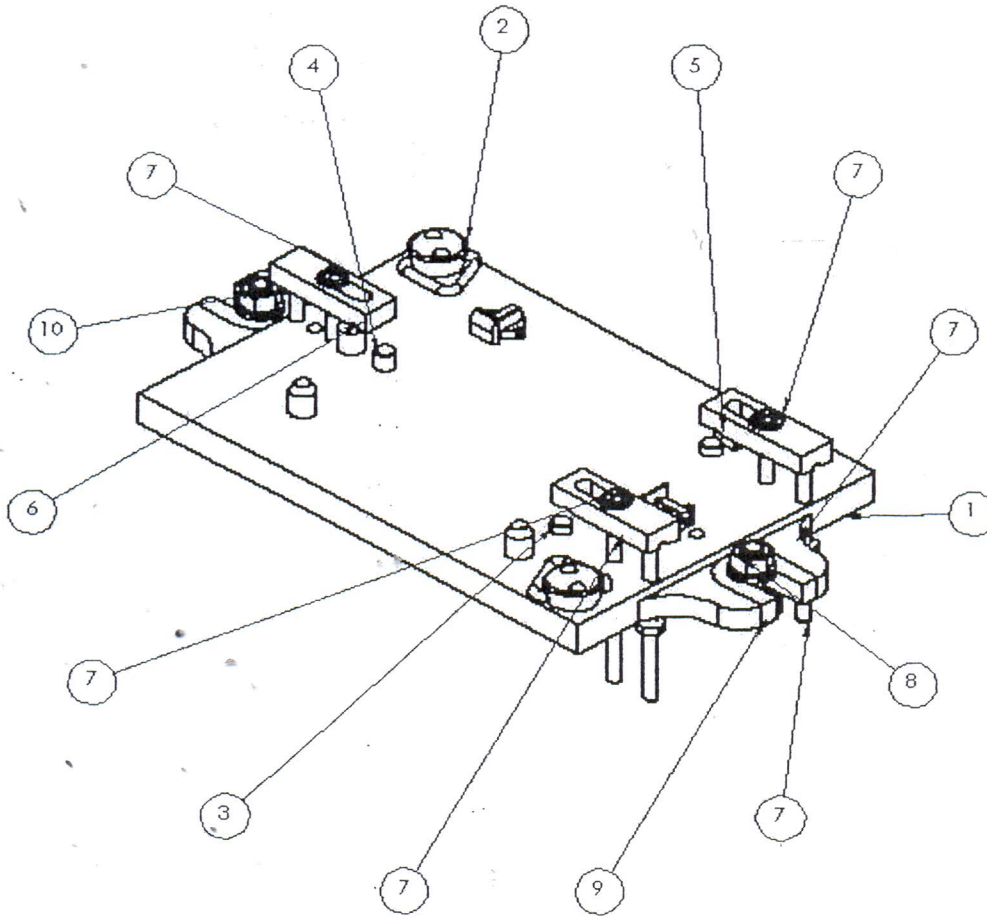

Figure 4: Plate Fixture
Refer to the Figure 4 to answer question 6 (a), (b), (c), and (d).
- (a) According to the plate fixture illustrated in Figure 4, explain why the components no.3 and no.4 significant to this assembly fixture?